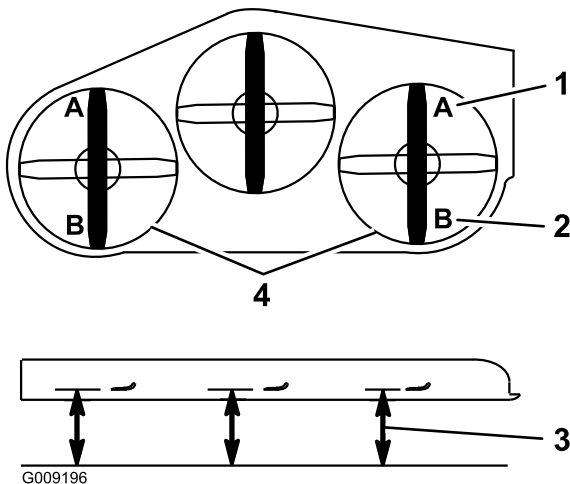

Figure 90
Note: The measurement should read 7.6 cm (3 inches) (Figure 90).
17. On both sides of the deck, measure from the level surface to the back tip of the blade (Position B). The measurement should read 8.3 cm (3 1/4 inches) (Figure 90).